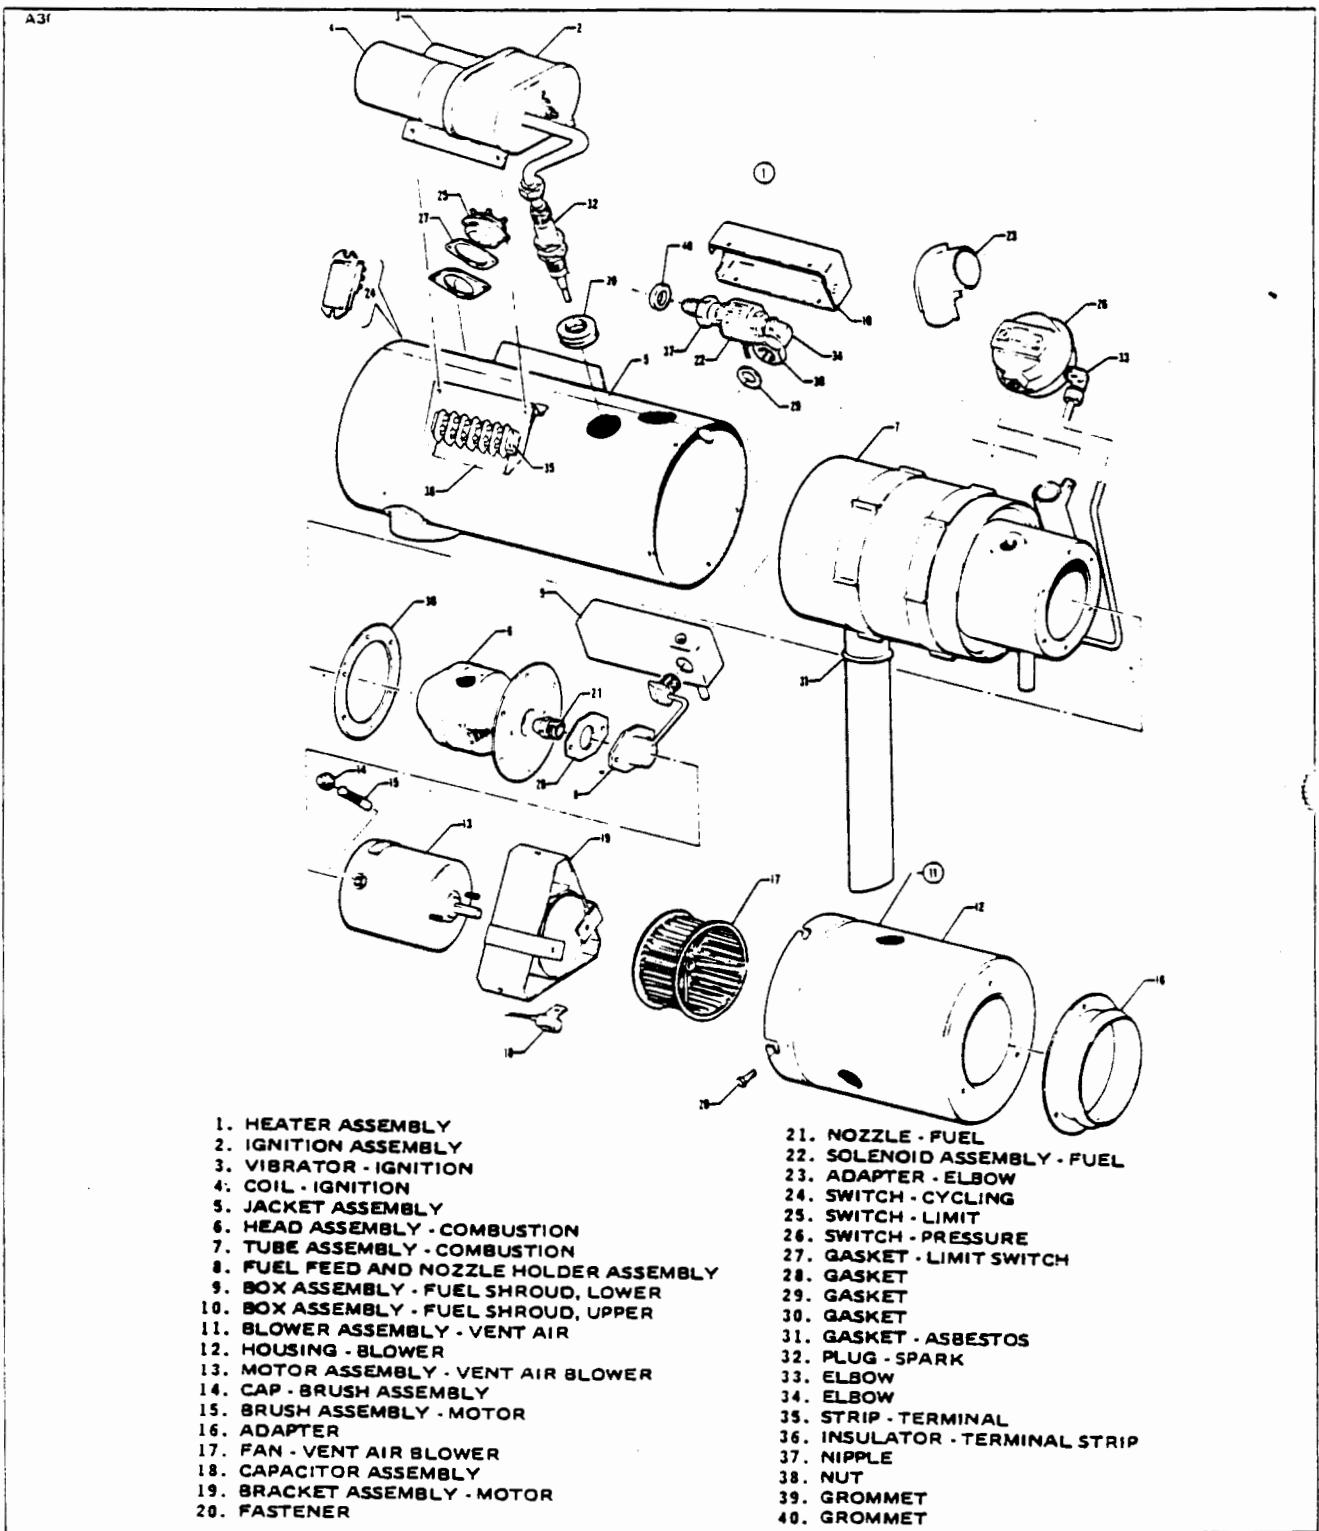

Figure 21-18. Exploded View of Heater Assembly
CLEANING OF HEATER COMPONENTS. (Refer to Figure 21-18.)
CLEANING AND INSPECTING THE COMBUSTION TUBE ASSEMBLY. (Refer to Figure 21-18.)
INSPECTION OF REMAINING COMPONENTS. (Refer to Figure 21-18.)
6. Inspect the ignition assembly (refer to Figure 21-18) for dented case, loose or damaged primary terminal insulator and broken or obviously damaged high voltage lead. Give particular attention to the condition of the spring connector at the end of the lead. If the spring is burned off, visibly eroded or carbon tracked, the ignition assembly should be replaced.
5. Spray test the nozzle (refer to Figure 21-18) as follows:
REASSEMBLY OF HEATER. (Refer to Figure 21-18.)
21. Install the wiring harness and connect all wire leads to their respective terminals. (Refer to the wiring diagram, Figure 21-7.) Place the grommet (refer to Figure 21-18) in position in the jacket; locate the ventilating air blower at the end of the jacket. Thread the quick-disconnect on the motor leads through the grommet and connect it to the mating connector on the wiring harness.